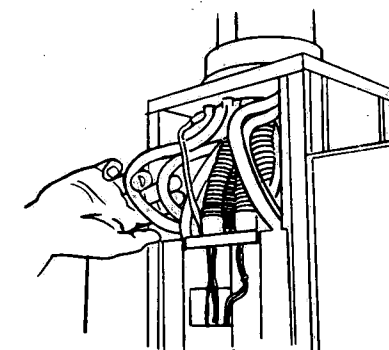

Figure 6-13. Support Head Assembly Front View
3. Reach in front (platform side) of the support head assembly and gently pull the excess length of each line through the opening above the capacitor jacket (see Figure 6-13).